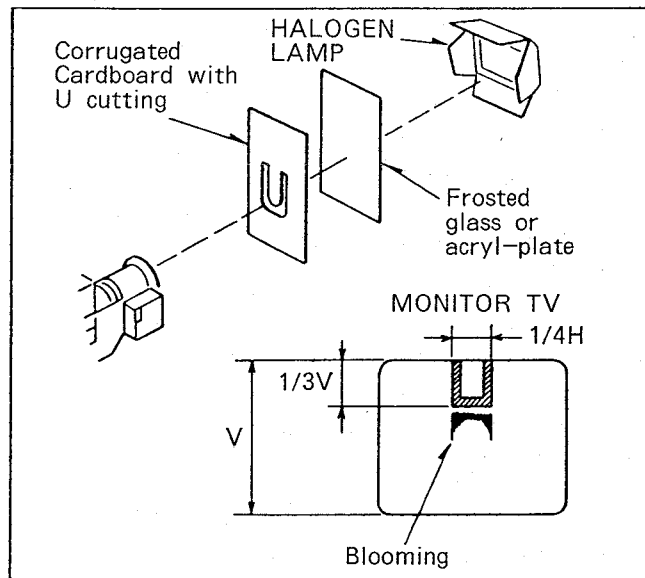

Fig. C20
7. Aim the camera at the Halogen Lamp as shown in Fig.C20.
8. Blind the lighting using frosted glass or acryl plate to diffuse incoming light. And also put a corrugated carboard which inside is cut to "U" shape as shown in Fig.C20.
8. Aim the camera at the Halogen Lamp as shown in Fig.C20.
9. Blind the lighting using frosted glass or acryl plate to diffuse incoming light. And also put a corrugated carboard which inside is cut to "U" shape as shown in Fig.C20.